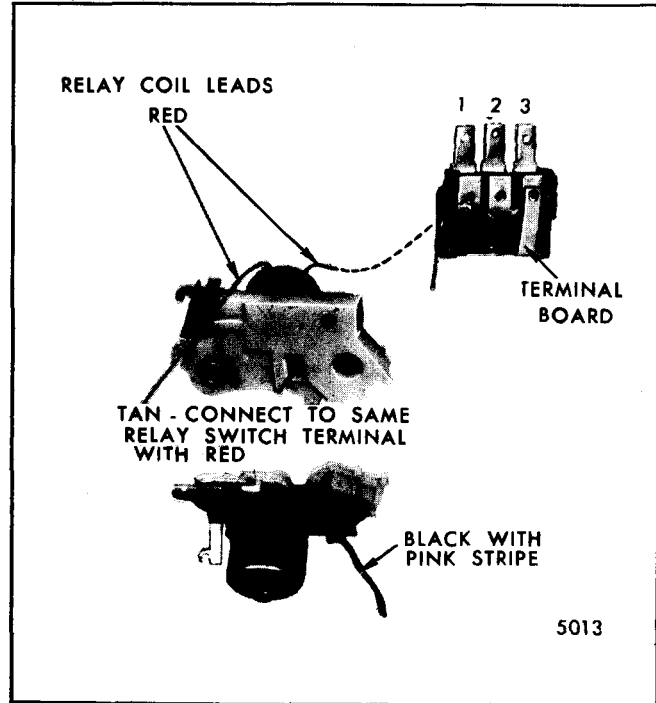

Fig. 2-38-Terminal Board and Latch Relay
- Remove relay switch attaching screw and carefully lift the relay switch assembly out of the gear box. Unsolder leads from switch terminals as required. Refer to Fig. 2-38 when resoldering leads.
1. Resolder red coil lead to wiper terminal board as required (Fig. 2-38).